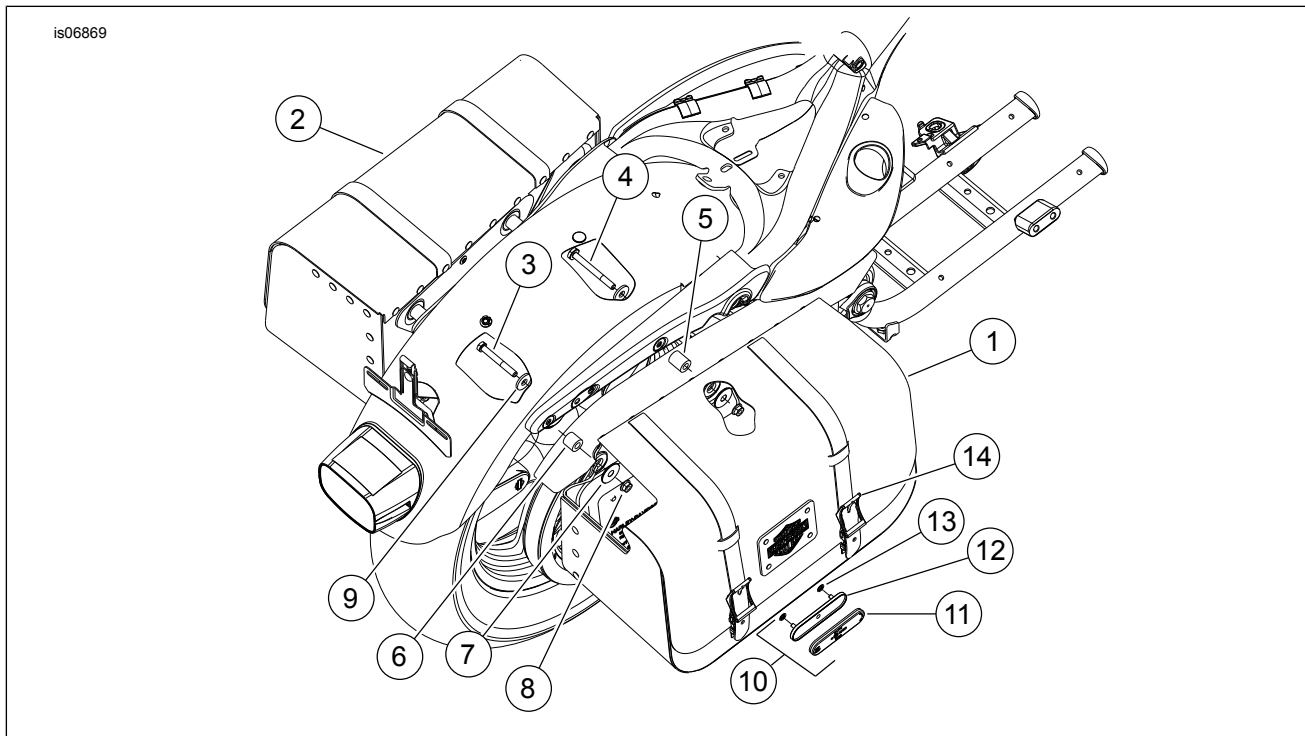

Figure 2. Service Parts: Express Rider Saddlebag Kit
See Figure 2 and Table 1.
6. See Figure 2. From the underside of the fender, install screw (3) and washer (9) from kit through the rear fender hole and screw (4) and washer (9) through the front fender hole and into the fender support and cover, where the two button head screws were previously removed in Step 4.
7. Install the short spacer (6) onto the rear bolt and the long spacer (5) onto the front bolt.
9. Thread top-hat washers (7) and flange locknuts (8) to bolts on the inside of the saddlebag. Make sure that the smaller diameter of the top-hat washer is inserted into the plastic tub of the saddlebag. Tighten both flange locknuts to 33–37 N·m (24–27 ft-lbs).
2. See Figure 2. Position reflector mount (12) on saddlebag.
5. Using soapy water, clean the reflector mounting surface of the reflector mount (12).
7. Remove backing from adhesive on reflector (11) and install on mount (12).
9. Install reflector mount (12) on saddlebag using two push nuts (13).